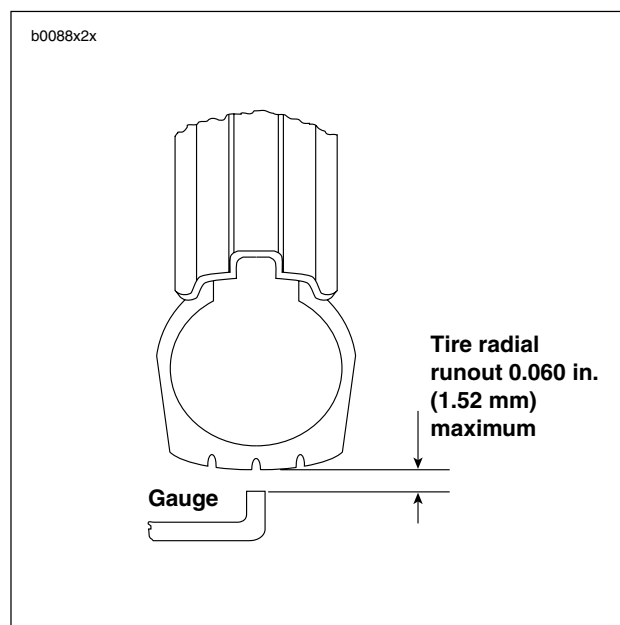

Figure 2-16. Checking Tire Radial Runout
1. See Figure 2-16. Turn wheel on axle and measure tread radial runout.